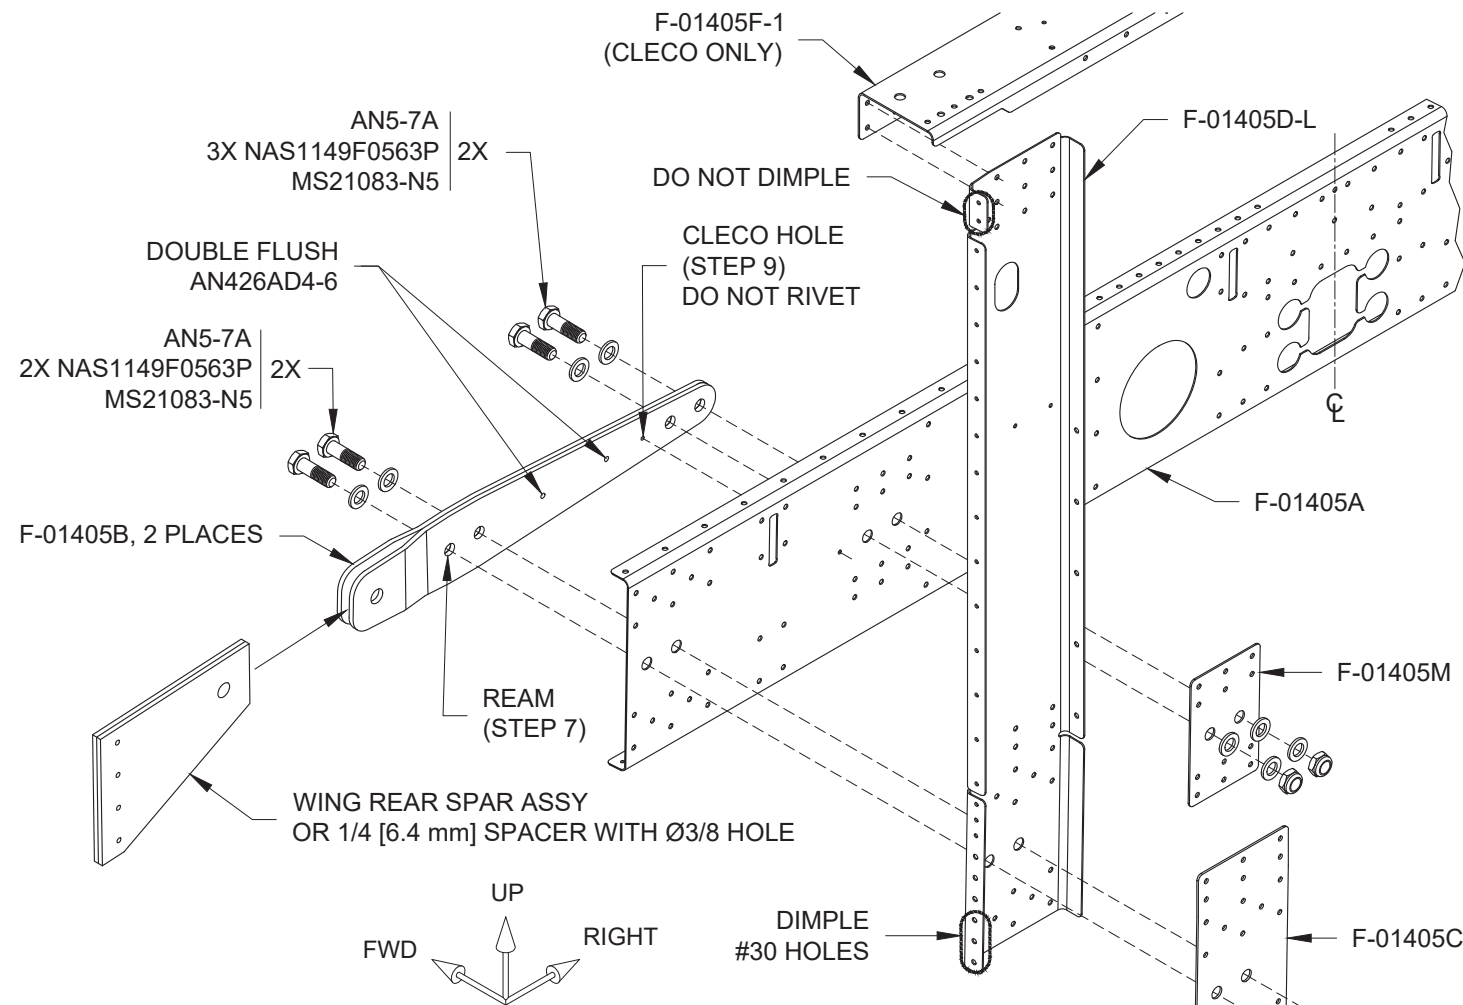

FIGURE 2: F-01405 BULKHEAD ASSEMBLY
Step 7: Ream .311 the hole in the F-01405B Bulkhead Bar Assemblies as shown in Figure 2.
Step 8: Bolt the F-01405B Bulkhead Bar Assemblies to the F-01405 Bulkhead using the hole reamed in Step 7. Leave the nuts fairly loose for now. See Figure 2.
Step 11: Bolt the F-01405B Bulkhead Bar Assemblies to the F-01405 Bulkhead using the hole reamed in Step 10. See Figure 2.
Step 13: Install the two remaining bolts attaching the F-01405B Bulkhead Bar Assemblies to the F-01405 Bulkhead Assembly as shown in Figure 2.